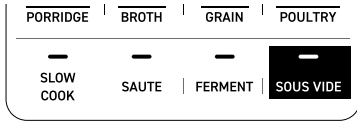

Figure 8.2
- Select **SOUS VIDE** and press the **-** or **+** buttons to adjust the time. [Figure 8.2]